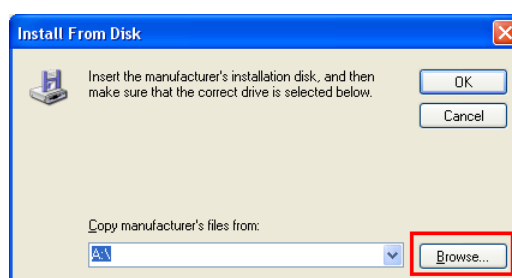

Fig. 2-4 Select the target file of driver
- 4) Click [Have Disk...] button to open the next dialog box. A dialog box named “Install From Disk” will pop up, as shown in Fig. 2-4.